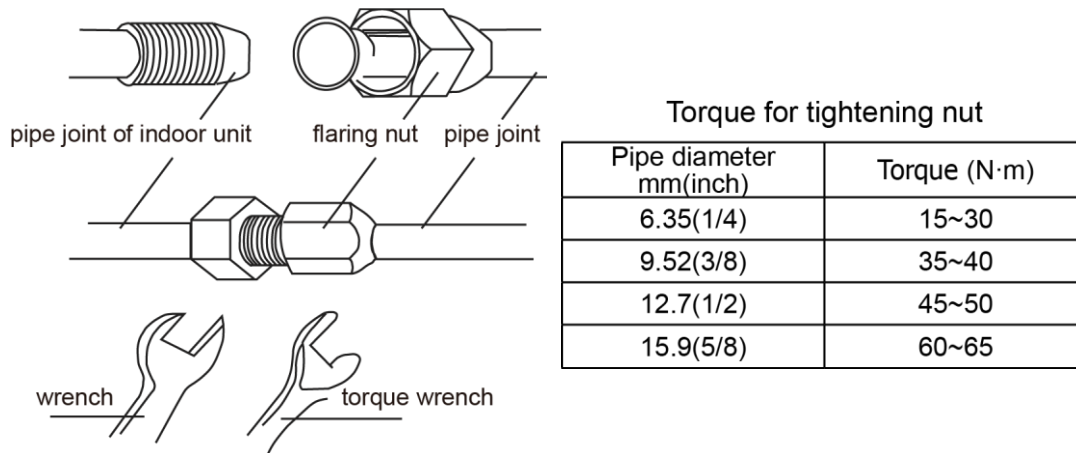

Fig.4.2.1
- (1) Aim the flaring port of copper pipe at the center of screwed joint and then tighten the flaring nut with hand as shown in fig 4.2.1.
- (2) Tighten the flaring nut with torque wrench.